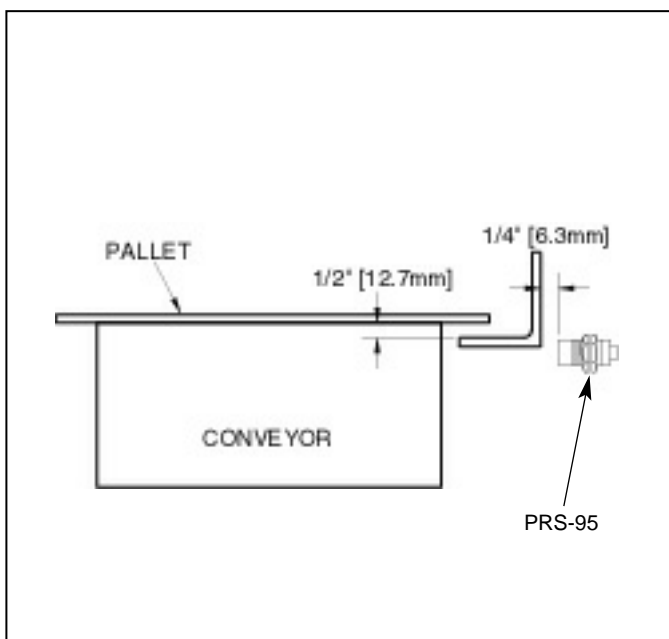

Figure 2.16 PRS-95.
2.2.1.2 Adjust PRS-95 so that the top of the shelf angle on Accumulator is 1/2" [12.7mm] below the bottom of pallet sitting on conveyor. See figure 2.16.